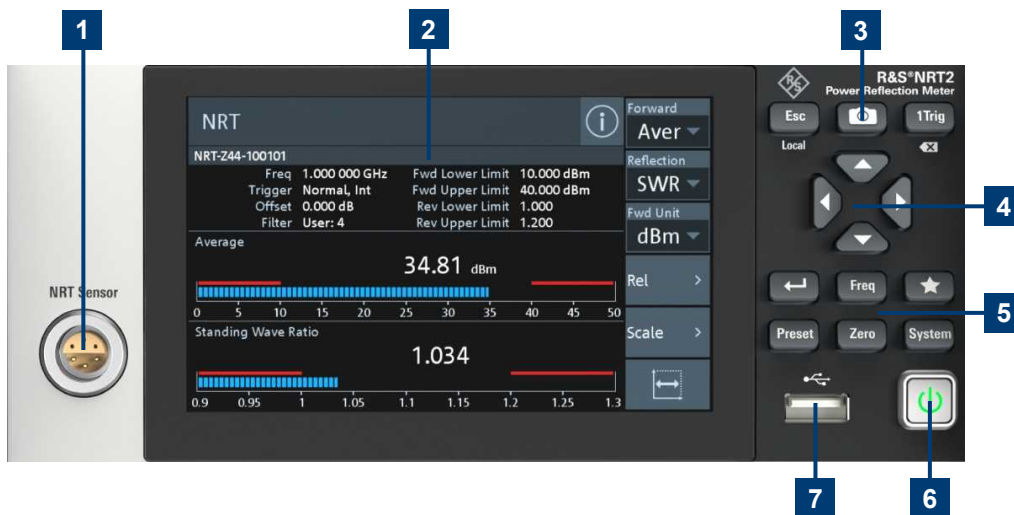

Figure 5-1: Front panel of the R&S NRT2
See Figure 5-1.
See Figure 5-1 and Figure 5-2.
See (1) in Figure 5-1.
See (2) in Figure 5-1.
See (3, 5) in Figure 5-1.
See (4) in Figure 5-1.
See (6) in Figure 5-1.
See (7) in Figure 5-1.